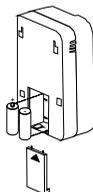

Figure B- 46: Inserting the Batteries
5. Open the battery cover by pushing down on the battery snaps (Figure B- 46).